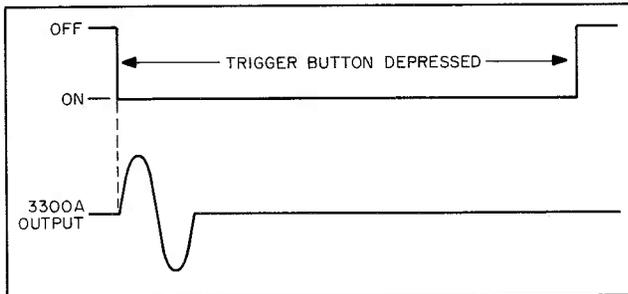

Figure 2
a. At low frequencies, approximately 60 cps, the 3300A will generate only one cycle after the MANUAL TRIGGER button is depressed. See Figure 2.